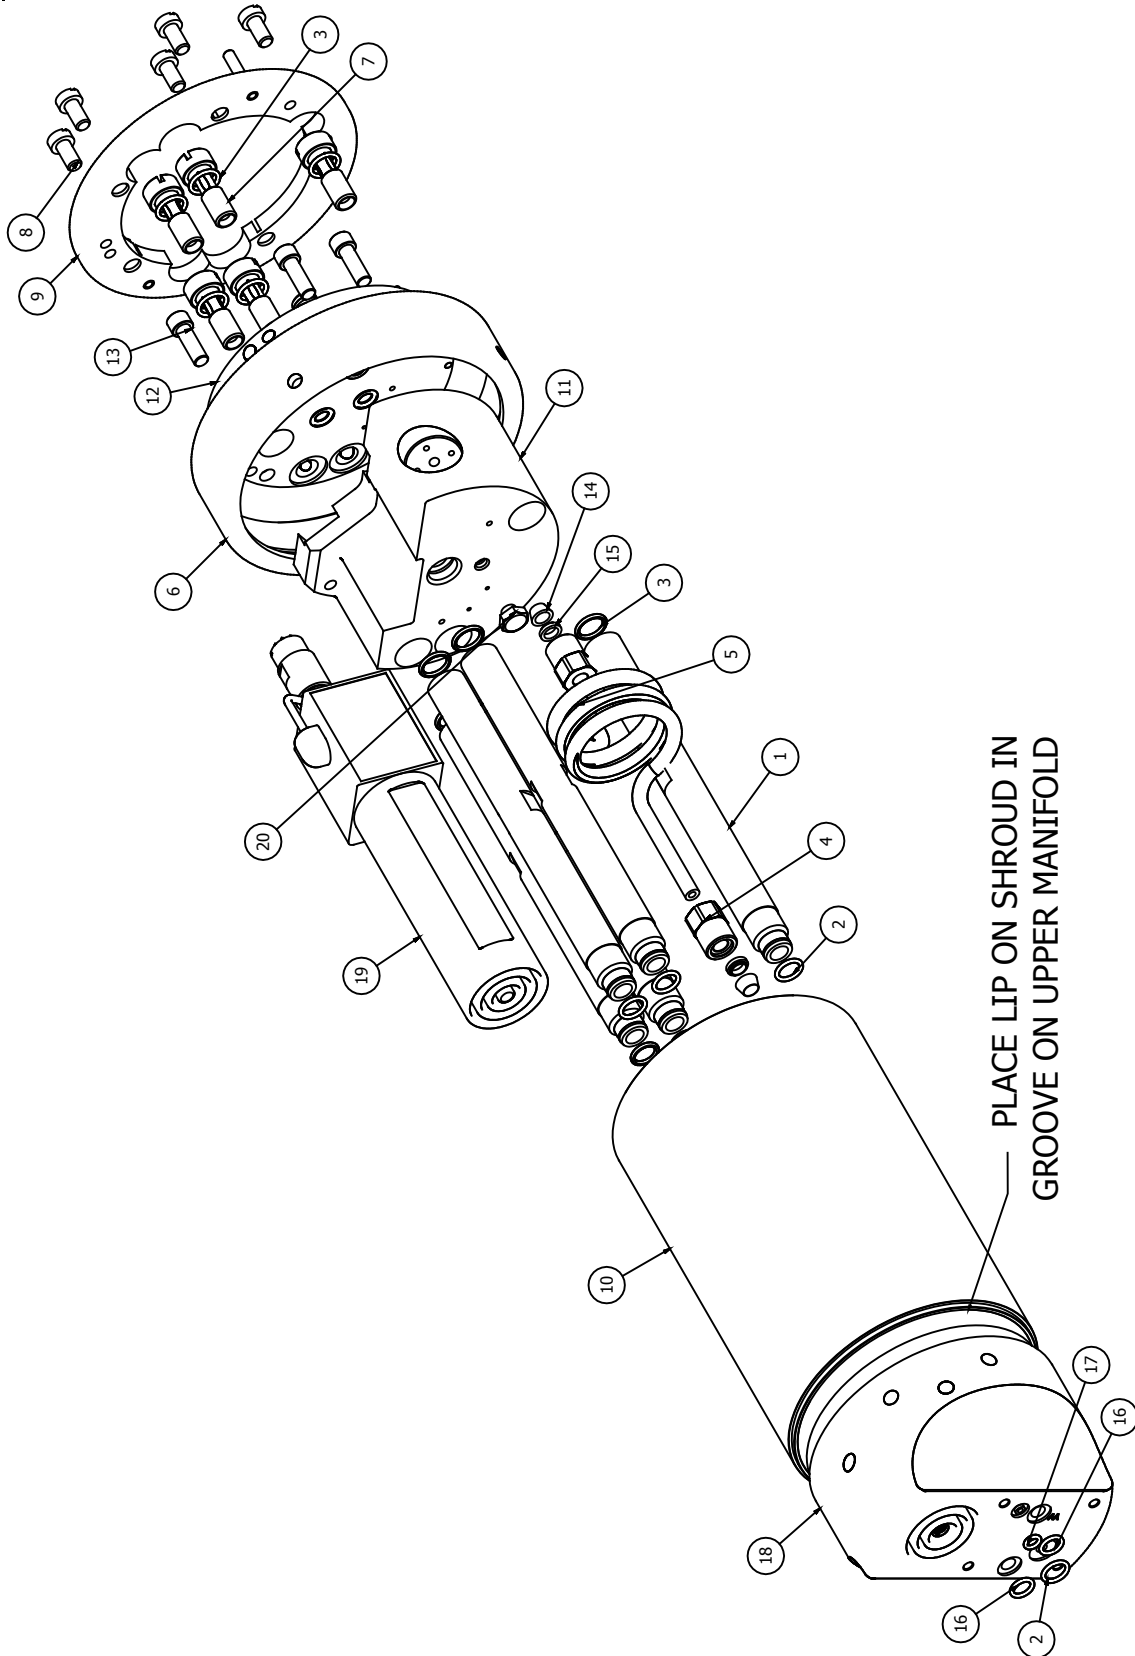
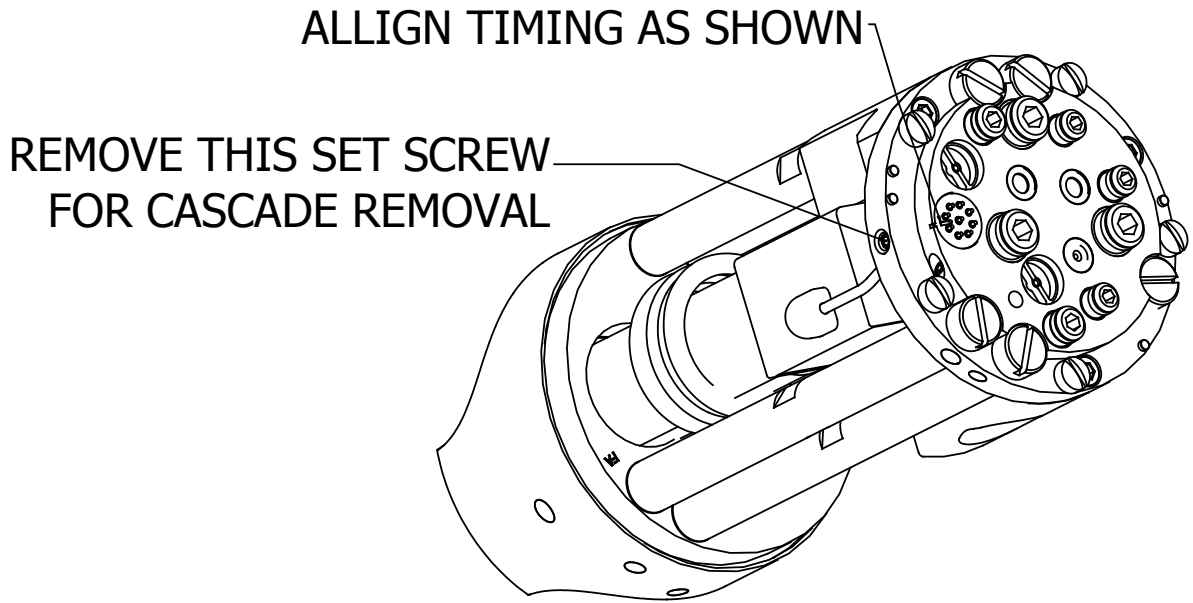

Figure 13: Disassembly Of A11981 Spray Applicator Assembly
Figure 14: Cascade Wire Plug Assembly
7. Remove and inspect the o-rings [2, 16, and 17] on the upper manifold [18]. Replace if necessary (see Figure 13).
8. Remove mounting ring [6] by pulling straight up as shown in Figure 13.
9. Remove the five (5) screws [8] from the bottom of the mounting plate [12] (see Figure 13).
12. Remove the five (5) air bolts [7] from the bottom of the mounting plate [12]. Inspect the five (5) o-rings [3] located within the air bolts [7] and replace if necessary.
14. Remove the cascade plug [19] from the mounting plate [12] by unscrewing the set screw located on the side of the mounting plate [12] in-line with the timer markings. (For set screw location see Figure 14).
15. Slide the valve manifold block [11] and mounting plate [12] off of the support rods [1] (see Figure 13).
16. Unscrew the five (5) support rods [1] from the upper manifold [18] using an A11284-00 tool.
17. Remove the cascade [19] from the upper manifold [18] by pulling straight down on the cascade [19] (see Figure 13).
19. Remove the mounting plate [12] from the valve manifold block [11] by unscrewing the three (3) screws [13] located on the bottom of the mounting plate [12].
20. Reassemble in reverse order making sure to align the cascade wire plug timing mark with the timing mark on the mounting plate [12] as shown in Figure 14. Remember to tighten the set screw called out in Figure 14.
21. When placing the shroud [10] back onto the assembly, make sure to mate the edge with the lip on the shroud [10] with the upper manifold [18], and fit the lip of the shroud [10] into the groove on the upper manifold [18], as shown in Figure 13.
A11981 SPRAY APPLICATOR ASSEMBLY - PARTS LIST (Figure 13)
2. Loosen retaining ring [6] (see Figure 13) and remove applicator from robot wrist.
3. Using 3/16" Allen wrench, remove set screw [2] (see Figure 14).